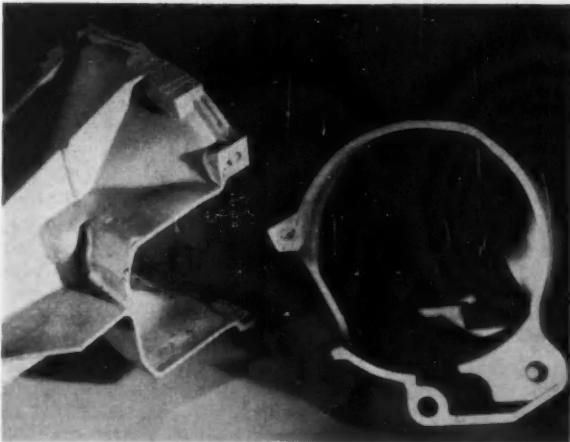

Fig. 2—Typical heavy sections where shrink holes appear.
2. *Avoid heavy sections and walls*: Heavy sections do not solidify as fast as thin sections. When metal shrinks while it solidifies, the thin sections draw metal from the heavier sections which are still molten. Since risers cannot be applied on die castings, shrinks appear in heavy sections as shown in Fig. 2.